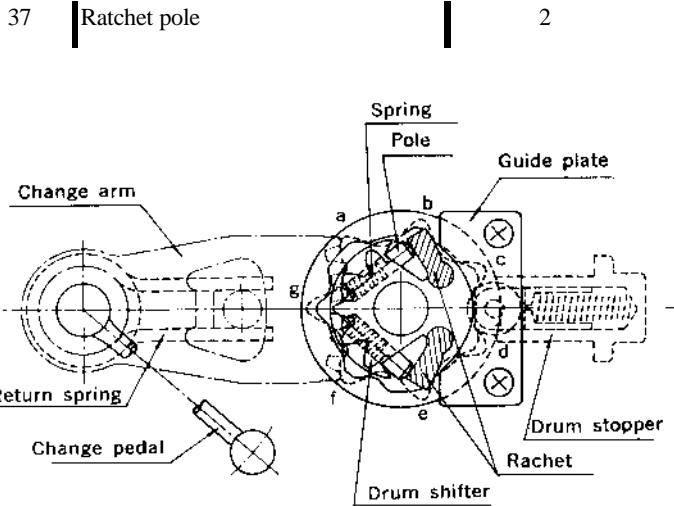

Fig. 62 Neutral gear position
- C-1. Neutral gear position. (Fig. 62)